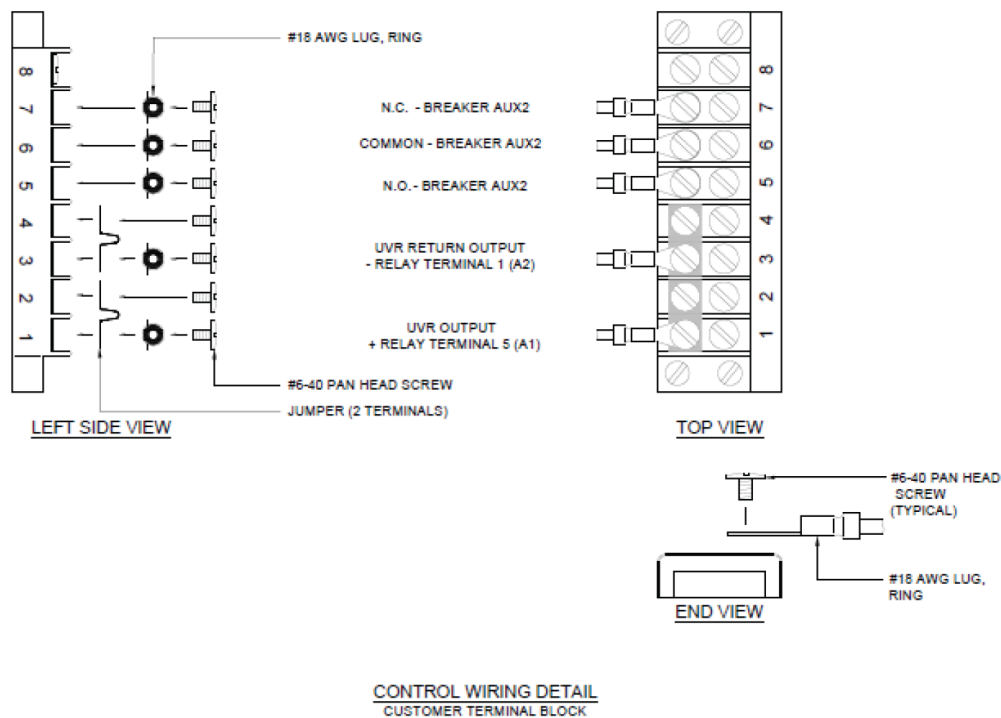

Figure 9. Pins 1,3 - UVR/Shunt Relay Access, Pins 5,6,7 (NO, COM, NC)
- a. UVR/SHUNT Relay – A relay coil is provided to facilitate external UPS connection to the battery circuit breaker, refer to the Figure. 9 for details. When the battery cabinet is configured with an UVR access, the circuit breaker cannot be turned on until UPS outputs its rated UVR voltage. When the battery cabinet is configured with a shunt access, the circuit breaker will trip when the UPS outputs its rated shunt trip voltage.
- b. AUX Circuit Breaker Access - Access to the Circuit Breaker status is provided via NO, NC and COM on the terminal block provided, see Figure. 9 for details.